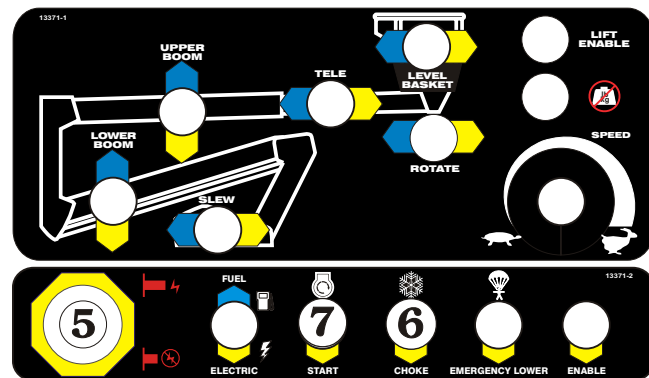

Figure 8.10
4. Set the **Emergency Stop** switch ⑤ to (ON) (see Figure 8.10).
5. If the engine is at ambient temperature (cold), hold the **Choke Switch** ⑥ (see Figure 8.10) down throughout the next step.